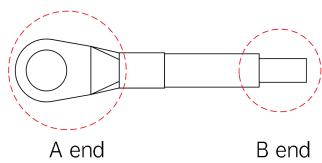

Fig. 2-5 Grounding terminal connection
(5) Grounding: MV810-PNET01 and MV810-ECAT01 must be grounded during wiring as shown in Fig. 2-5. You need to prepare and crimp the wire by yourself.